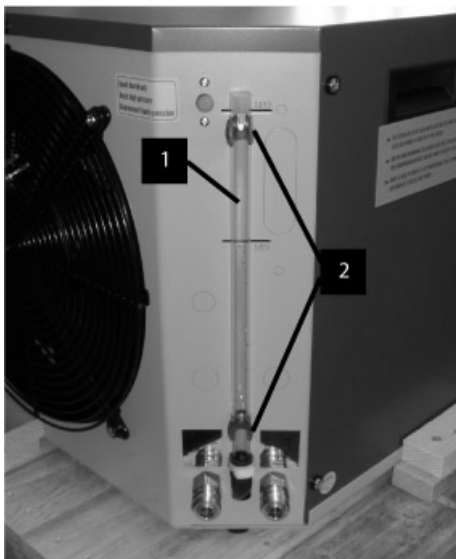
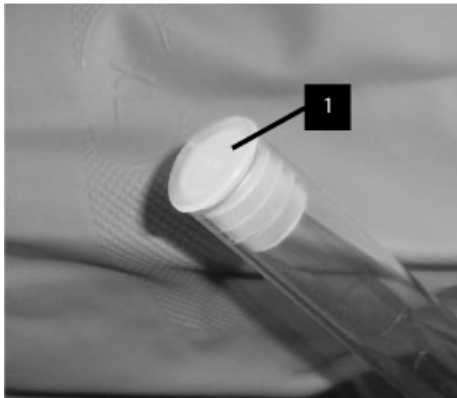

Fig. 56
Fig. 57
3. Drain the system through the level indicator (Fig. 56/1).
For that carefully pull the level indicator out of the retaining brackets (Fig. 56/2).
4. Remove the cap (Fig.57/1) from the level indicator (Fig. 56/1). It will be used again after the system has been drained.
6. Refit the level indicator cap (Fig. 57/1) after the system has been drained.
Carefully insert the level indicator in the retaining brackets (Fig. 56/2) to its original position.